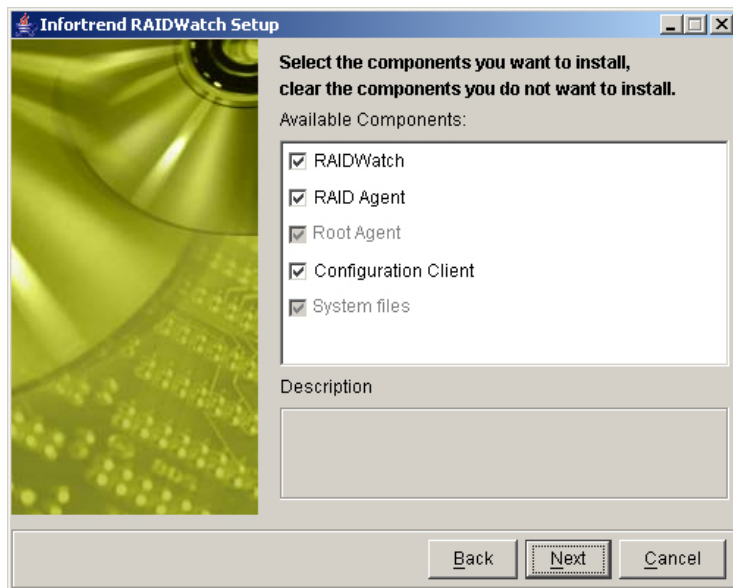
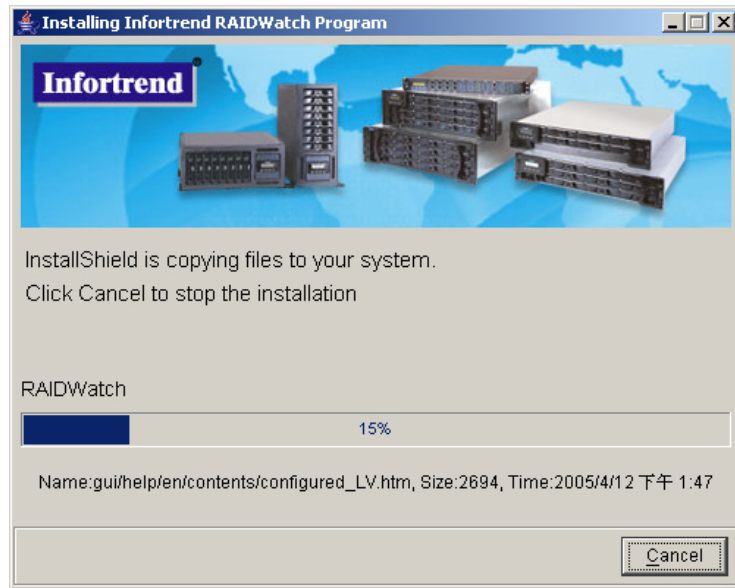

Figure 3-8: Optional Components
Figure 3-9: Installing Active
**Step 1.** If the *Next* button from *Figure 3-8* was selected, the Install Active window shown in *Figure 3-9* will appear. If you wish to stop the installation procedure, then click the *Cancel* button.